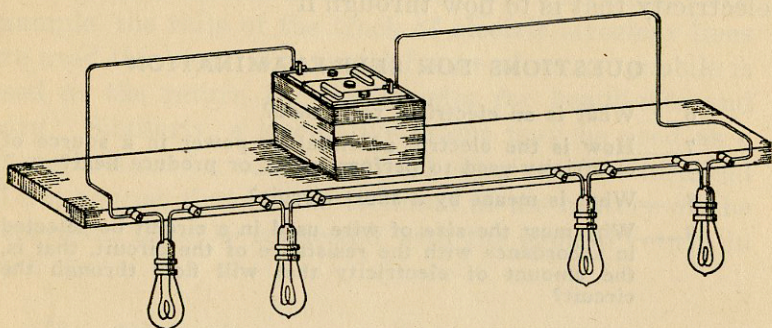
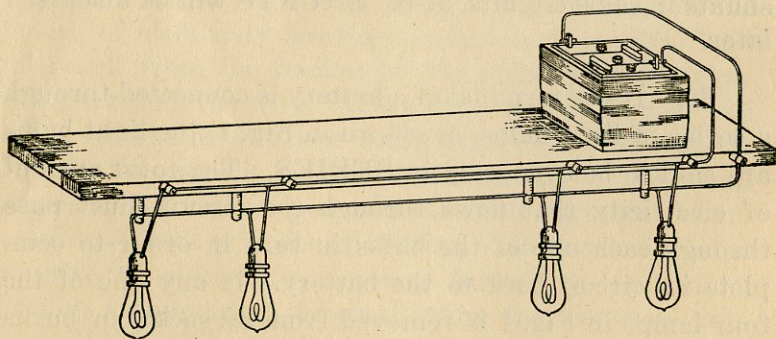
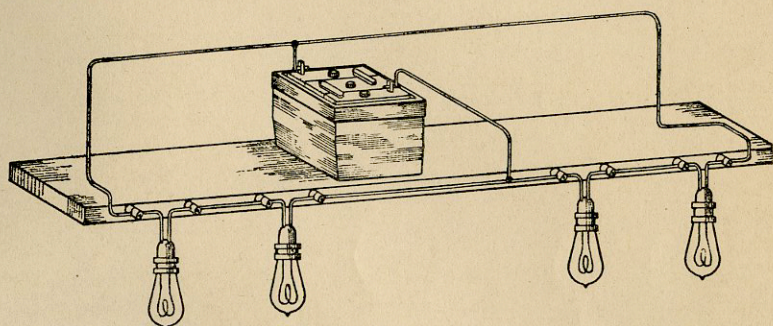

Fig. 1
Fig. 2
Fig. 3
35. If one terminal of a battery is connected through a series of light bulbs, as shown in Fig. 1, the light bulbs are said to be connected in **SERIES**. The total amount of electricity that flows through the circuit must pass through each one of the bulbs in turn in order to complete its circuit back to the battery. If any one of the four lamps in Fig. 1 is removed from its socket or burns
36. When four light bulbs are connected in a circuit, as shown in Fig. 2, they are said to be connected in PARALLEL. The electricity that enters the circuit di-
For example, in the parallel circuit shown in Fig. 2, each lamp will burn with the full voltage of the source, but only as much electricity will flow through each branch as can pass the resistance of the lamp in that branch. If three lamps are removed, the fourth lamp will use no more electricity than it did when all four were burning. The current that the other three lamps were using still is available, but that fact has no effect on the remaining lamp, its resistance is not changed, so it burns just as it did before.
38. Referring again to Figs. 1 and 2, the total resistance of the four similar lamps in series (Fig. 1) cuts down the voltage acting on any one lamp to one fourth of the voltage of the source, whereas, when the lamps are in parallel (Fig. 2), each lamp is acted upon by the full voltage of the source. On the other hand, in the series circuit, the total amount of electricity that flows through the circuit passes through each lamp just as though the four lamps were one big lamp having a resistance equal to that of the four. However, when the lamps are in parallel, only one fourth of the total flow of electricity passes through any one of the four lamps.
39. A combination of the two circuits shown in Figs. 1 and 2 is shown in Fig. 3. The first pair of lights is in series and the second pair of lights is in series, but the two *pairs* of lights are connected in parallel. This is an example of a **SERIES-PARALLEL** circuit. The total amount of electricity which enters the circuit will be